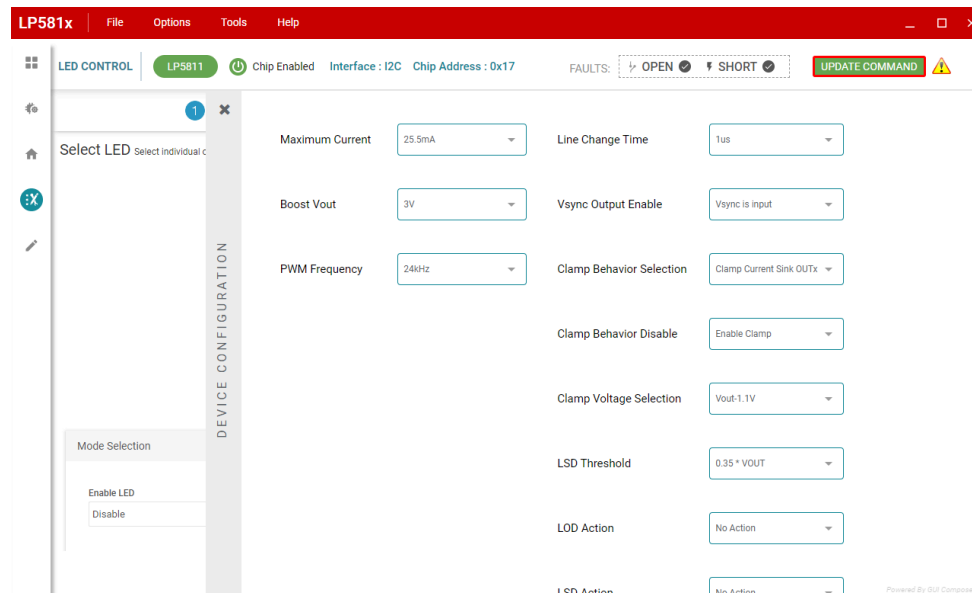

Figure 3-10. Device Configuration Page
5. **Device Configuration**: Click this button to navigate to the Device configuration page. See Figure 3-10.